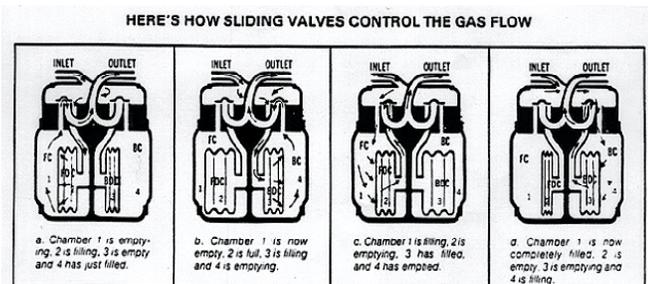

FIGURE 1. Operation of Positive Meters
*Diaphragm Meters* accomplish this with a set of bellows which are filled and then emptied through a set of sliding valves. As one compartment of the bellows fills, the other is emptying. (See Figure 1)